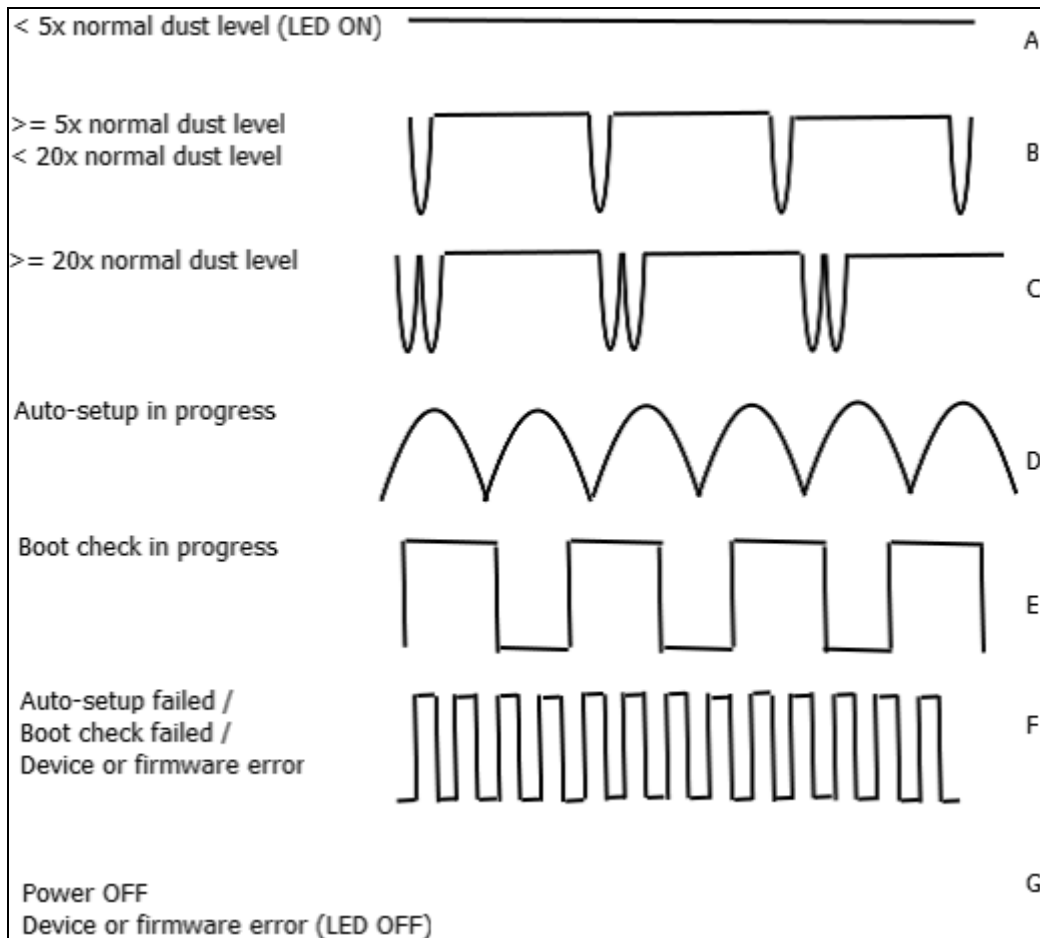

Figure 9 Description of Snifter mA+ EX cover illumination sequences.
- 1.1 by connecting the automatic setup signal (green wire) to the V+ signal (wire) for a period of 1 second. The automatic setup will initiate and the front panel light will start to blink slowly (sequence D in Figure 9 Description of Snifter mA+ EX cover illumination sequences.).